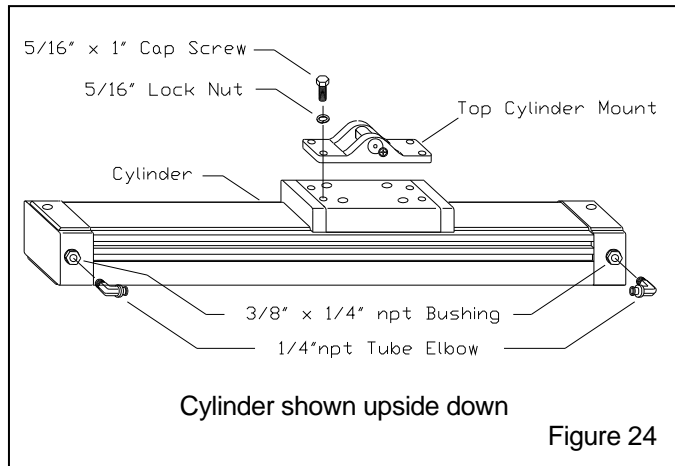

Figure 24
2.8.2.2 Use the fasteners provided to attach the top cylinder mount to the cylinder as shown in Figure 24.